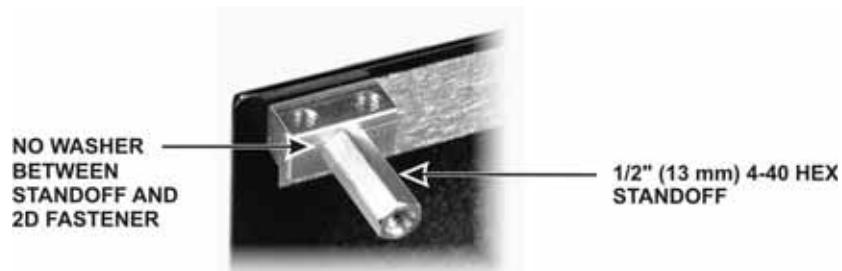

Figure 23. KANT3/KAT3 Mounting Standoff.
- Screw a 4-40 1/2" (13 mm) standoff onto the exposed end of the screw as shown in Figure 23. ***Do not use a lock washer between the standoff and the 2D fastener.*** Tighten the standoff securely against the 2D fastener. Set the side panel aside temporarily.